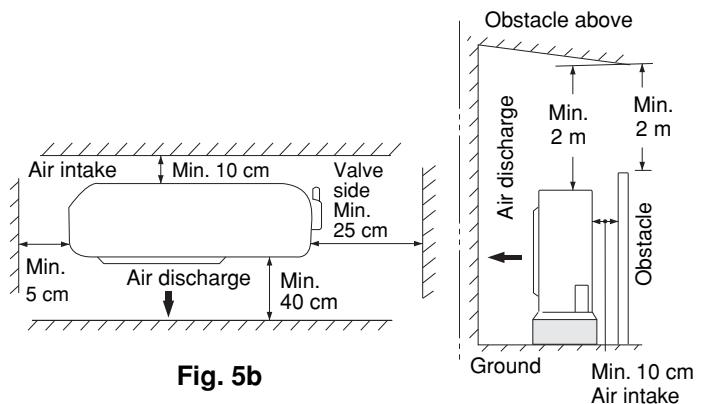

Fig. 5b
- In general the top also must be unobstructed. (Fig. 5b)